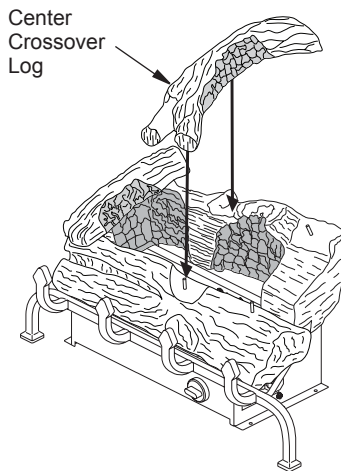

Figure 19 - Installing Center Crossover Log (H18 Series Shown)
- Place the center crossover log as shown in Figure 19. The bottom of the log is marked with a "C" for center. Match square peg on center of rear log with square hole in bottom of center crossover. Match round peg on center of front log with round hole in bottom of center crossover log.